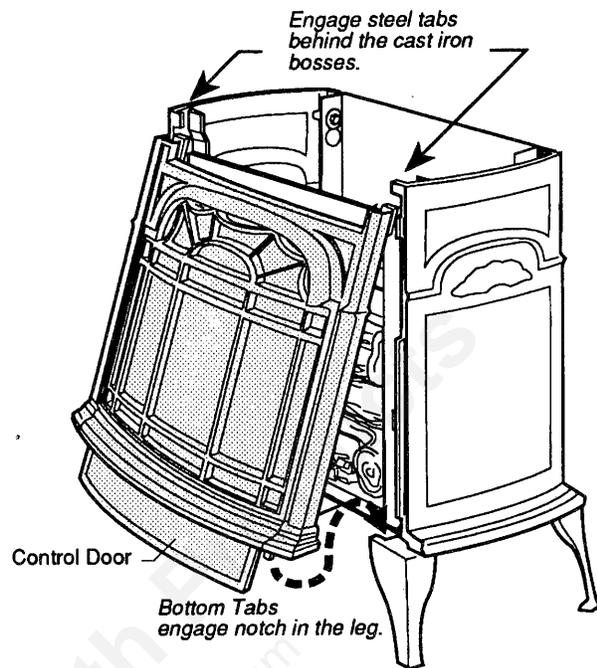

Figure 7. Install the Front Plate.
Step 6. Grasp the Front Plate by the window bars and lift it into position engaging the two steel tabs behind the adjacent bosses in the Side Plates. Fig. 7. Then seat the Front against the sides so that the tabs at the bottom lip engage with the notches in the stove legs.